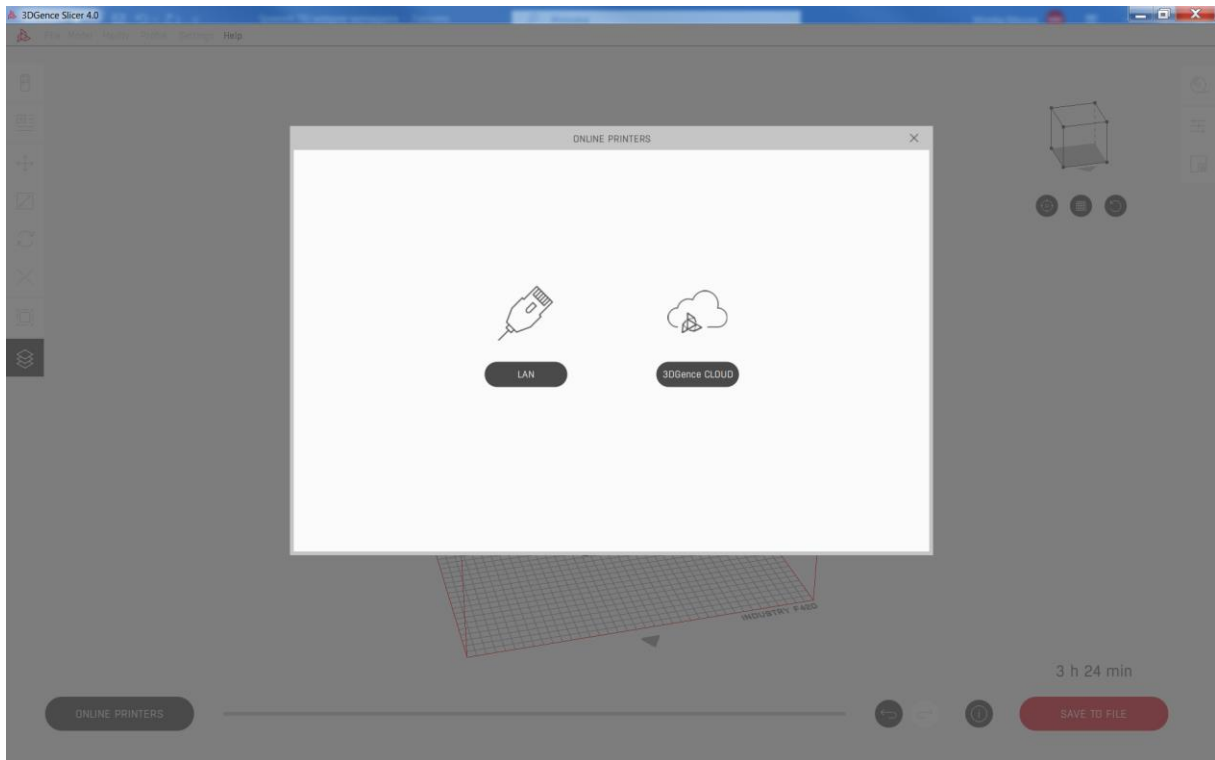
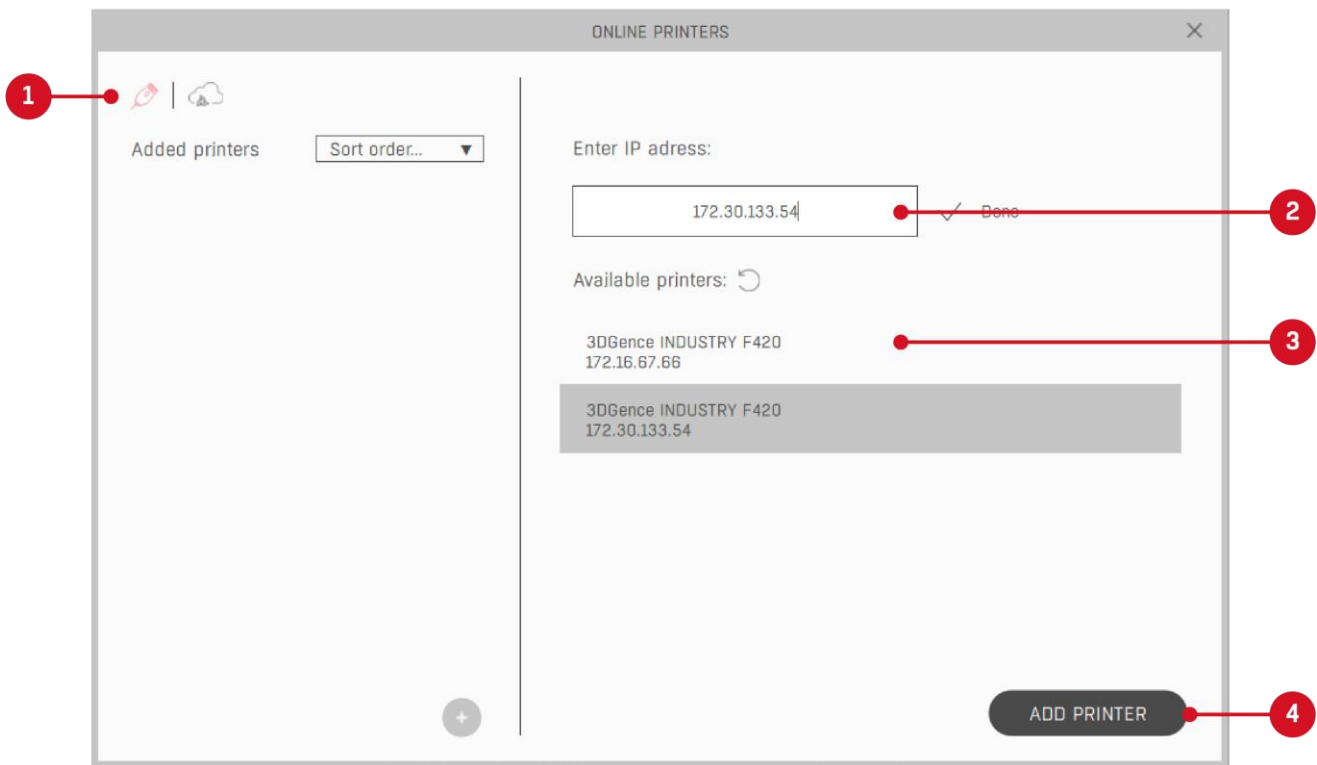
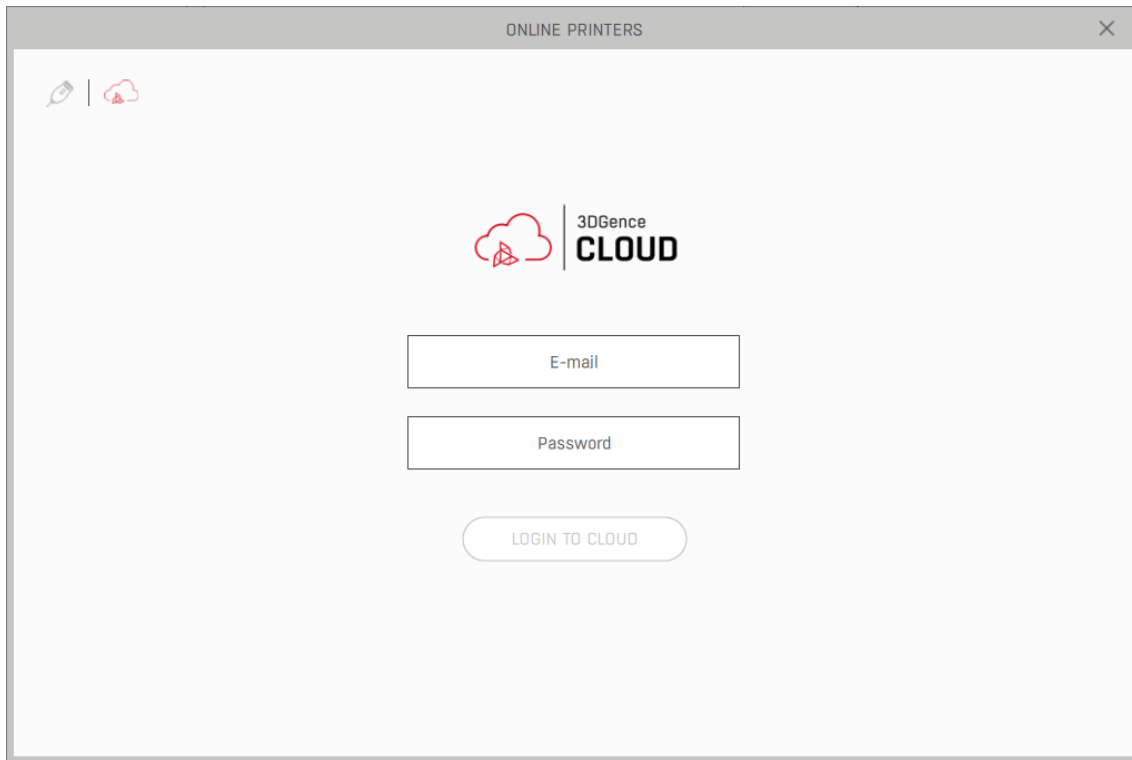

Fig. 22 Online printers option
Fig. 23 Screen after selecting LAN - printer search
Fig. 25 3DGence CLOUD login screen
The "online printers" option (Fig. 22) enables sending files to a printer via local network or 3DGence CLOUD system from the 3DGence SLICER 4.0. In fig. 22 it is possible to select "LAN" or "3DGence CLOUD". This selection will be saved until you change the connection.
After selecting the LAN option in Fig. 22, the user is redirected to the screen associated with the local network (Fig. 23). The computer and printer should be connected to the same IP domain, so that you can search for printers and send files. At the first start, the list of added printers on the left is empty.
6. Add a new printer - moves to the screen shown in fig. 23.
After selecting the 3DGence CLOUD option in Fig. 22, the user is redirected to the screen where he can log to his account in the 3DGence CLOUD system (Fig. 25).